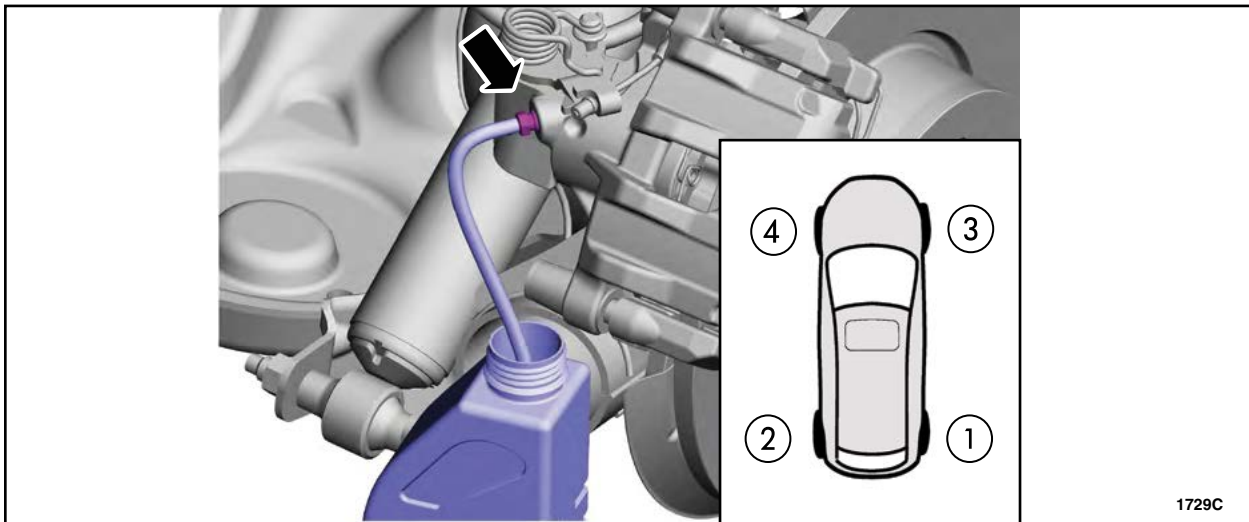

FIGURE 15
6. Loosen all four caliper bleeder screws in the order indicated. See Figure 15. Allow approximately 10 fl oz (295.7 mL) to drain from each bleeder screw, one wheel at a time.